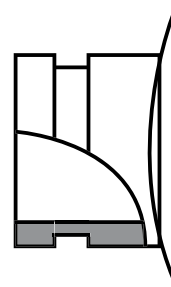

FIGURE 11 - VICTAULIC GROOVE
Standard chilled liquid connections on evaporators are of the Victaulic Groove type for ASME and PED marked units and Flange type for GB marked units (see *Figure 11 on page 43* for flange dimensions on GB marked vessels).
* Reference Figure 11 on page 44 for flange dimensions.